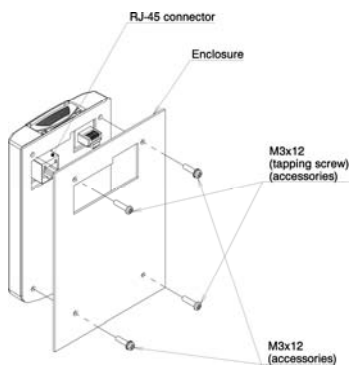

Figure 2.33 Mounting a Keypad
- ② Make a cut-out on the enclosure wall. For details, refer to Chapter 8, Section 8.5.3 “Keypad”
- ③ Mount the keypad onto the enclosure with 4 screws as shown in Figure 2.33. (Recommended tightening torque: 6.2lb-in (0.7 N·m)